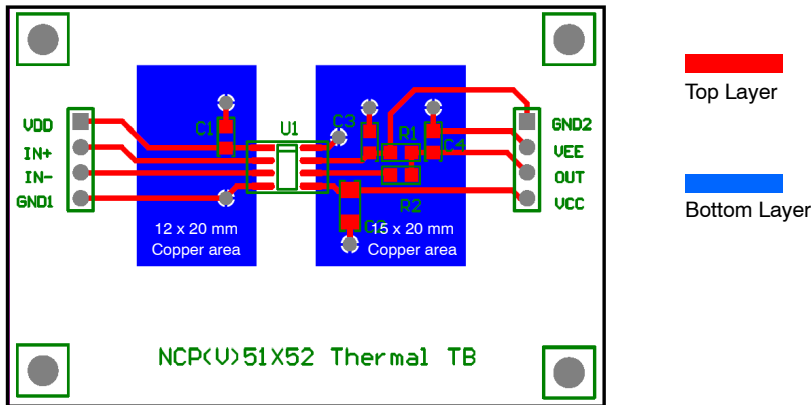

Figure 5. Reference Layout for the Type–B
8. As specified for a reference layout shown in Figure 5. The DUT is mounted on a 60 x 40 x 1.6 mm FR4 substrate with an additional heat spreading copper of 240 mm²/300 mm² (Primary/Secondary). The copper thickness is 1oz and test conditions is under natural convection or zero air flow.